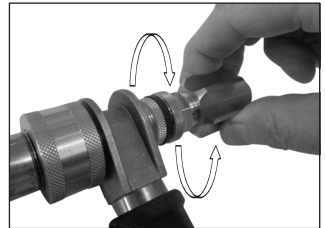

Figure 6.
1. The nozzle can be adjusted by turning counterclockwise for a full cone pattern and clockwise for a straight stream pattern (See Figure 6.)